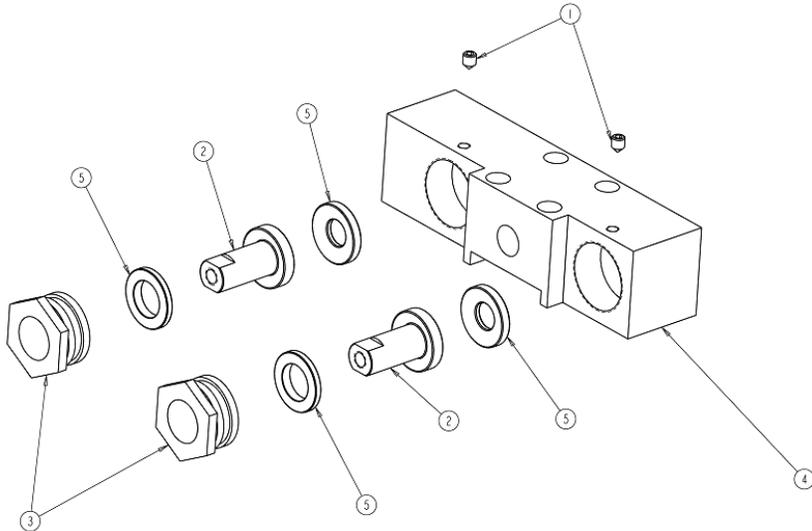
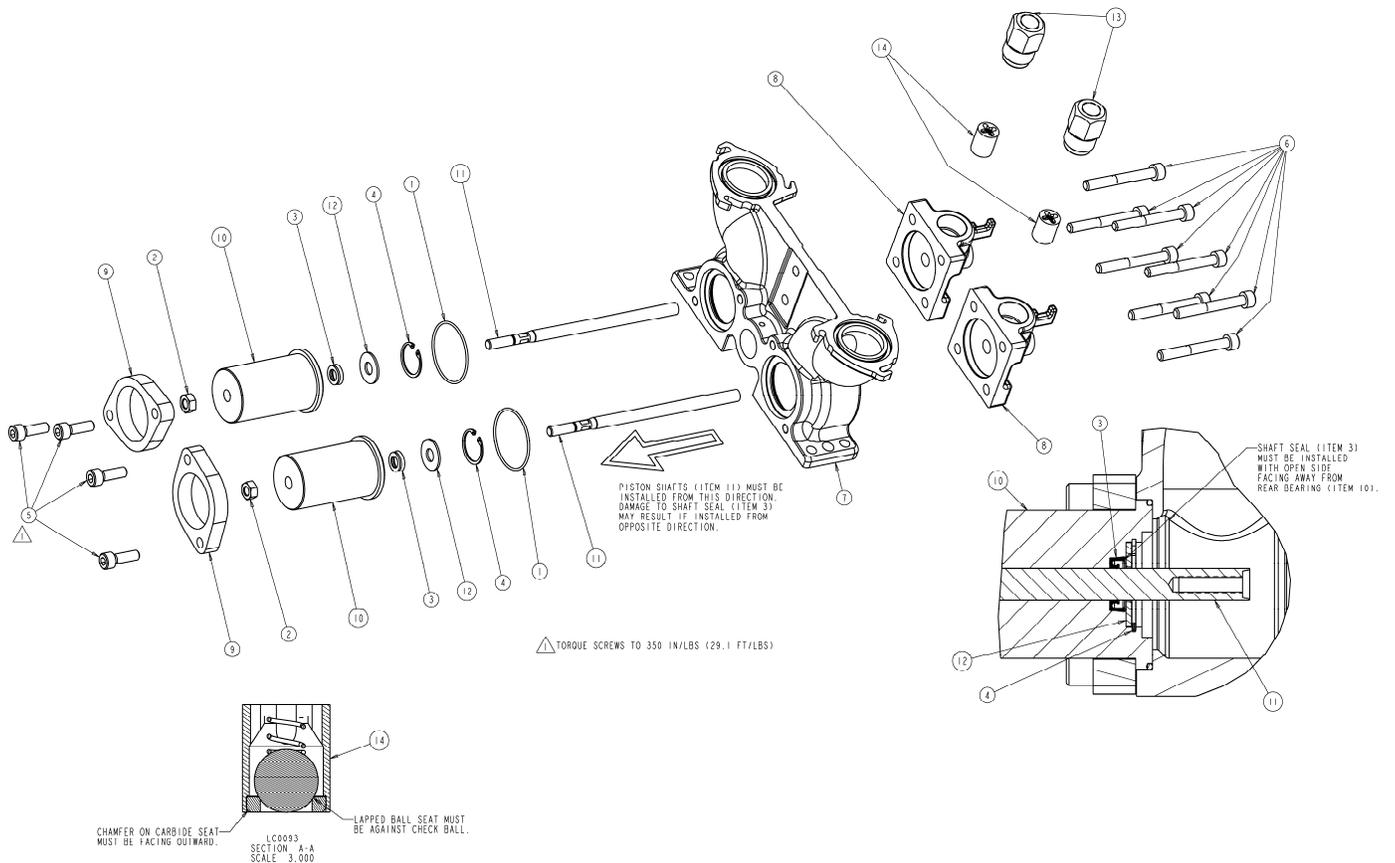

Figure 45: PR70 Drive Block Assembly (LC0107)
Figure 46: PR70 Pump Assembly (LC0112)
2. Disconnect the pump shaft (item 11 of Figure 46) from the drive block assembly by loosening the shaft locking nut (item 2 of Figure 46), then turning the shaft with a wrench while preventing the drive block alignment rod (item 2 of Figure 45) from rotating with a wrench. Manually push the pump shaft forward toward the extend position to separate the shaft from the drive block.
4. Remove the pump collar (item 9 on Figure 46) from the pump housing (item 7 on Figure 46) by removing the 2 screws (item 5 on Figure 46).
5. Slide the pump bearing housing (item 10 of Figure 46) away from the pump housing to remove.
12. Re-install the pump collar over the bearing housing and attach it to the pump housing using the 2 screws (item 5 on Figure 46) previously removed.
Torque the screws as specified in note  of Figure 46.
3. Remove the pump end caps (item 8 of figure 46) by removing the 4 end cap screws (item 6 of figure 46). Allow the cap to hang by the hose.
4. Remove the cylinder and Orings (items 1 and 6 of figure 50) from the pump housing (item 7 of figure 46) and pump cap.
7. Remove the existing piston (1) and any front or rear washers (items 3 & 4 of figure 50) from the pump shaft (item 11 of figure 46) by removing the piston screw (2). A wrench will be required near the drive block to prevent the pump shaft from rotating while the screw is removed.
12. Install the cylinder between the pump housing and end cap, then secure the cylinder and Orings by re-attaching the 4 end cap screws (item 6 of figure 46).